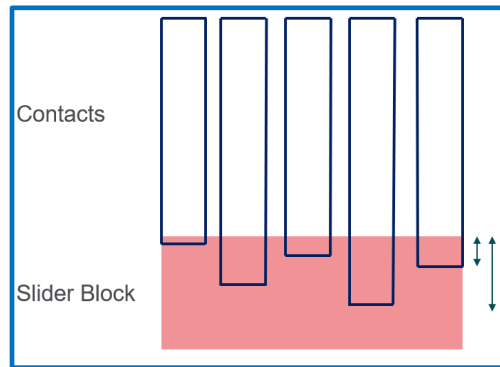

Figure 1 – Design Improvements to 412-074-101-105 Transducer
Bell has received reports that the Collective Pitch Transducer (CPT) 412-074-101-107 that was introduced by Alert Service Bulletin (ASB) 407-21-125 can cause engine parameter oscillations with uncommanded yaw, and in some cases the declaration of the FADEC CpCCFIt fault. These have been attributed to sporadic CPT output signals caused by vibrations being induced to the transducer during certain flight parameter operations (i.e. high power settings and straight level flight for extended periods of time). This Technical Bulletin (TB) provides installation instructions for a new transducer 412-074-101-105 that has design improvements incorporated to address the conditions experienced (Figure 1). The transducers 412-074-101-103 and the 412-074-101-107 are no longer procurable for the model 407 and are superseded to the 412-074-101-105.